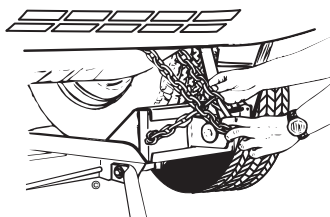

Figure 10
- ❑ Connect the two (2) vehicle security chains, found next to the ratchets, to the vehicle-in-tow frame or other structural member. Keep the security chains away from brake and fuel lines and other items that may be damaged by the chain. **DO NOT** place the chain hook on the vehicle's frame member or other structural member. Loop the chain around the member and place the hook through the hole in one of the chain links. Leave several inches of slack in the security chain. Be sure the "S"-hook is secured with a rubber retainer. (Figure 10).